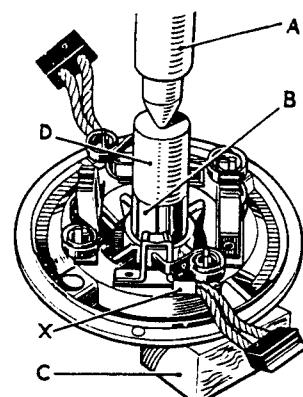

FIG. 13
exposed on the running faces, they must be replaced. Two of the brushes are connected to tappings (Y) on the field coils (Fig. 12), and the other two are connected to terminal eyelets (X) on the brush boxes (see Fig. 13).
### Bearings (Fig. 13)